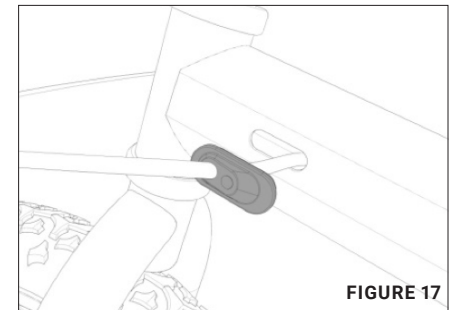

FIGURE 17
4. Remove Dust Plug. [Figure 17]